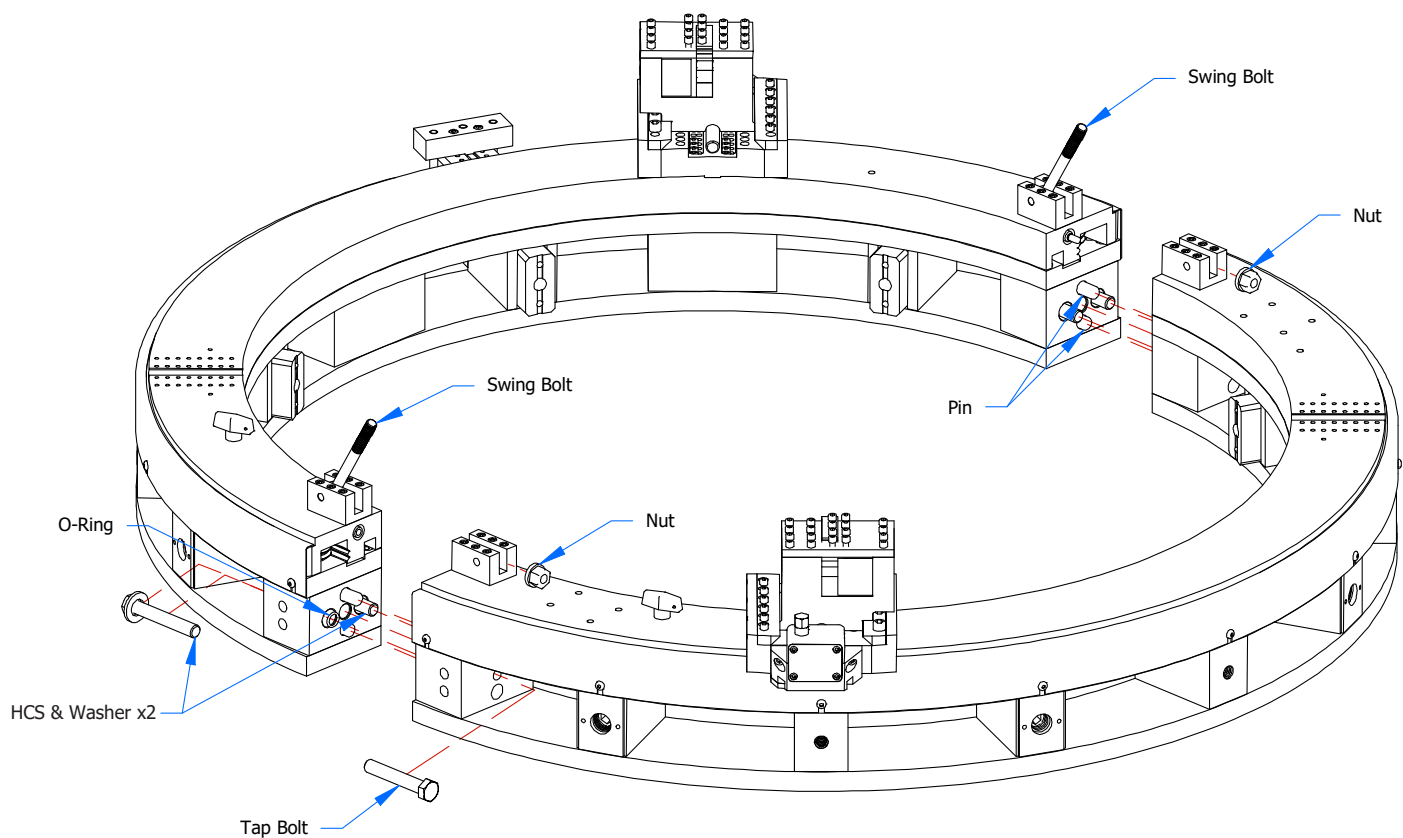

Figure 2-2 – Separate Clamshell Halves
2. Remove the nut holding the swing bolts and the two hex cap screws on each side of the clamshell. Separate the two clamshell frame halves by pulling straight apart. Do not pry or force open with tools; the Tap Bolts are there to push the two halves apart if need be. See Figure 2-2.